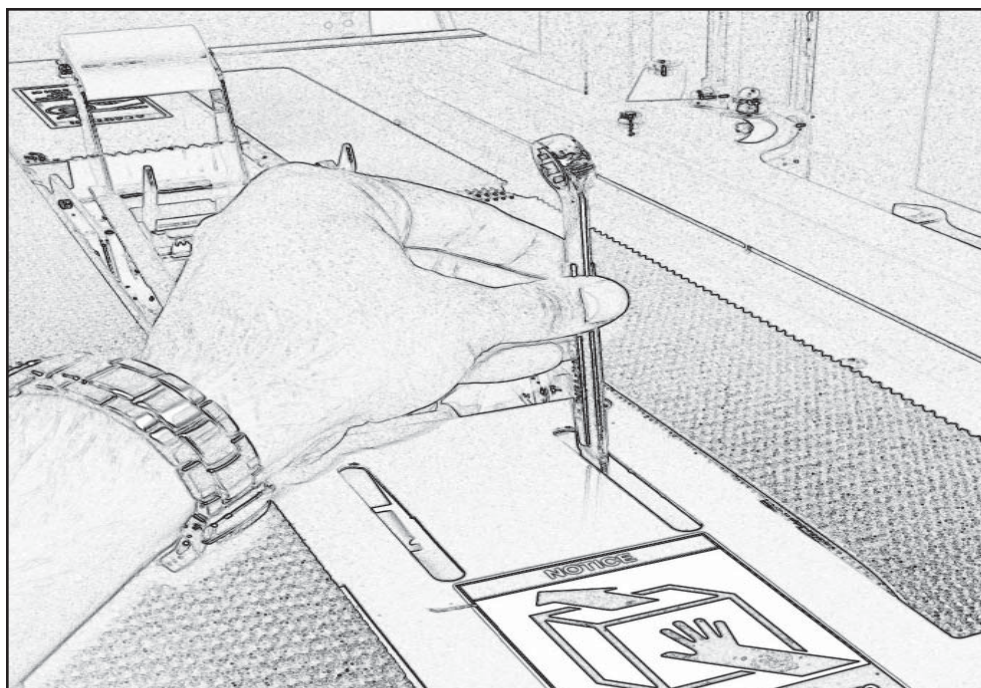

Figure 13-4 Lower Drive Belt Replacement
1. Using a 17mm open-end wrench, loosen, but do not remove the lock nut as shown in **Figure 13-4**.
2. Using a 6mm hex wrench, loosen tension screw until all belt tension is removed as shown in **Figure 13-4**.